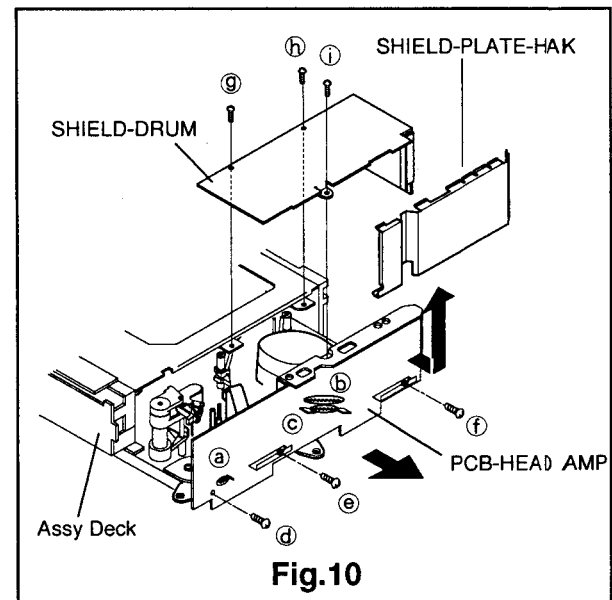

Fig.10
- ① Remove the Top Cover referring to Para. 1 of the DISASSEMBLY. Servicing on the copper side is possible.
- ② If necessary, remove the Assy Deck, refer to Para. 4 of the DISASSEMBLY. Raise the SHIELD-PLATE - HAK upward to remove it. Disconnect three terminals (a,b and c), remove three fastening screws (d,e and f) shown in Fig. 10 and disconnect the connectors of Head FE, A/C Head, and Motor CP to remove the PCB-HEAD AMP.
Remove three screws (g,h and i) shown in Fig.10 and raise the shield-drum upward to remove it.